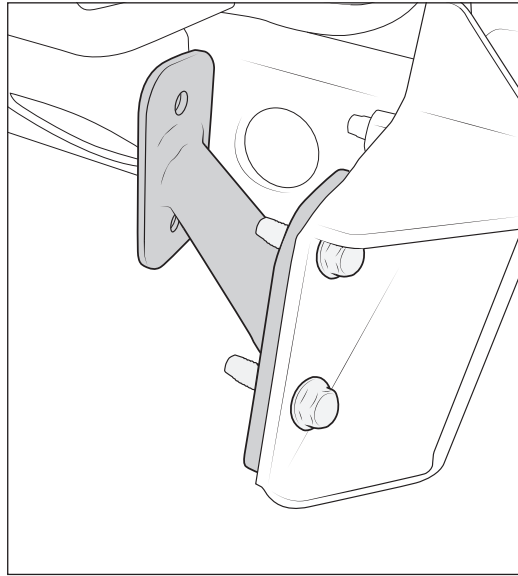

Figure 7: Passenger-side shown
7. Install side crush beams using two supplied M10 bolts and nuts (fig. 7). Torque nuts to 43 ft-lbs.